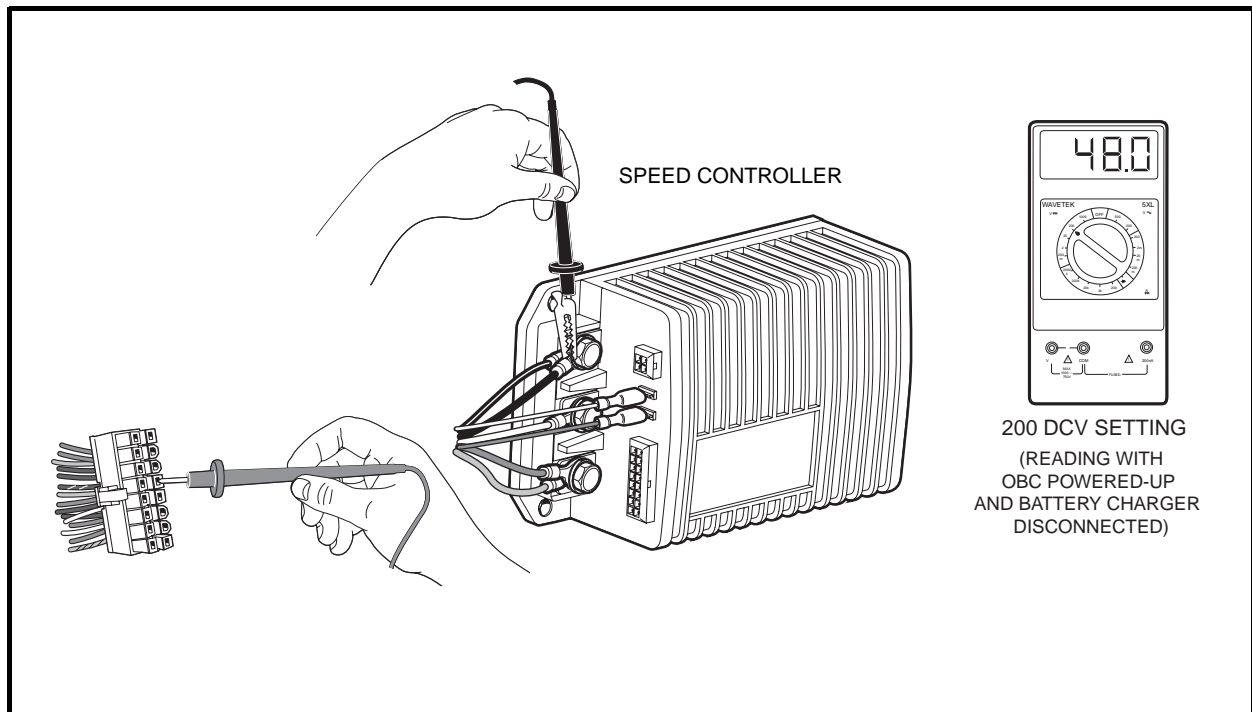

Figure 11-13 Pin 5 Test
4. Set a multimeter to 200 volts DC. Insert the red (+) probe of the multimeter into pin 5 (light blue wire) of the 16-pin connector. See following **CAUTION.** Using an alligator clip, connect the black (–) probe to the B– terminal of the speed controller (Figure 11-13, Page 11-24).